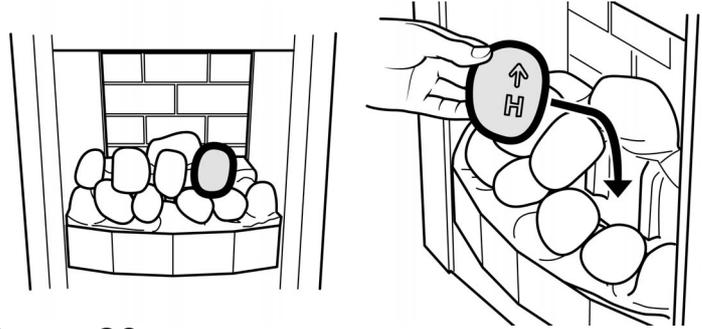

Figure 28.
11. Hold pebble 'H' upright with the arrow pointing to the top. Place pebble 'H' between the front and rear base pebbles. It should rest in between pebbles 'C' & 'D' and against the moulded pebble in the rear pebble base. (See figure 28).